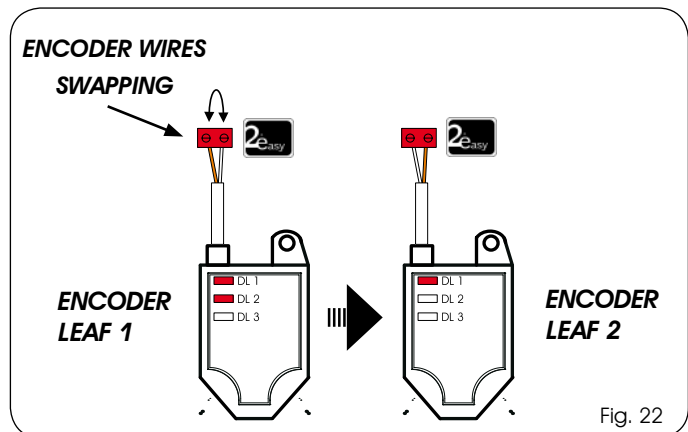

Fig. 22
**✎** BY SWAPPING THE ENCODER WIRES, THE ENCODER ASSOCIATED TO LEAF 1 CAN BE COUPLED TO LEAF 2 AND VICE VERSA (see example Fig. 22)